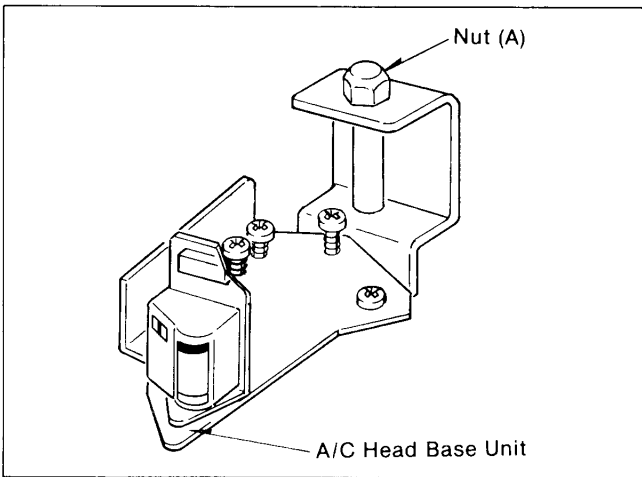
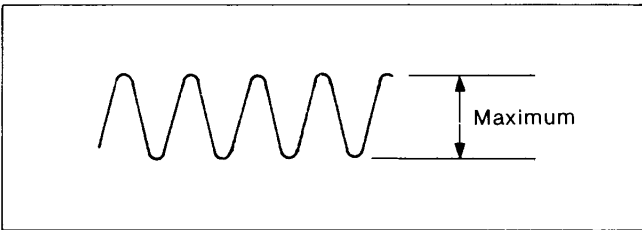
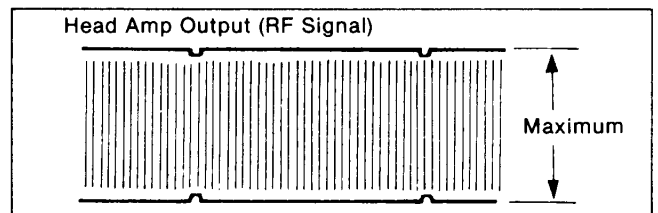

Figure M24
Figure M25
Figure M27
3. Adjust the Nut (A)(Figure M24) so that the CH2 output level becomes maximum as shown in Figure M25.
4. Adjust the Horizontal Position Screw (Figure M25) of A/C head so that the RF signal becomes maximum level as shown in Figure M27.